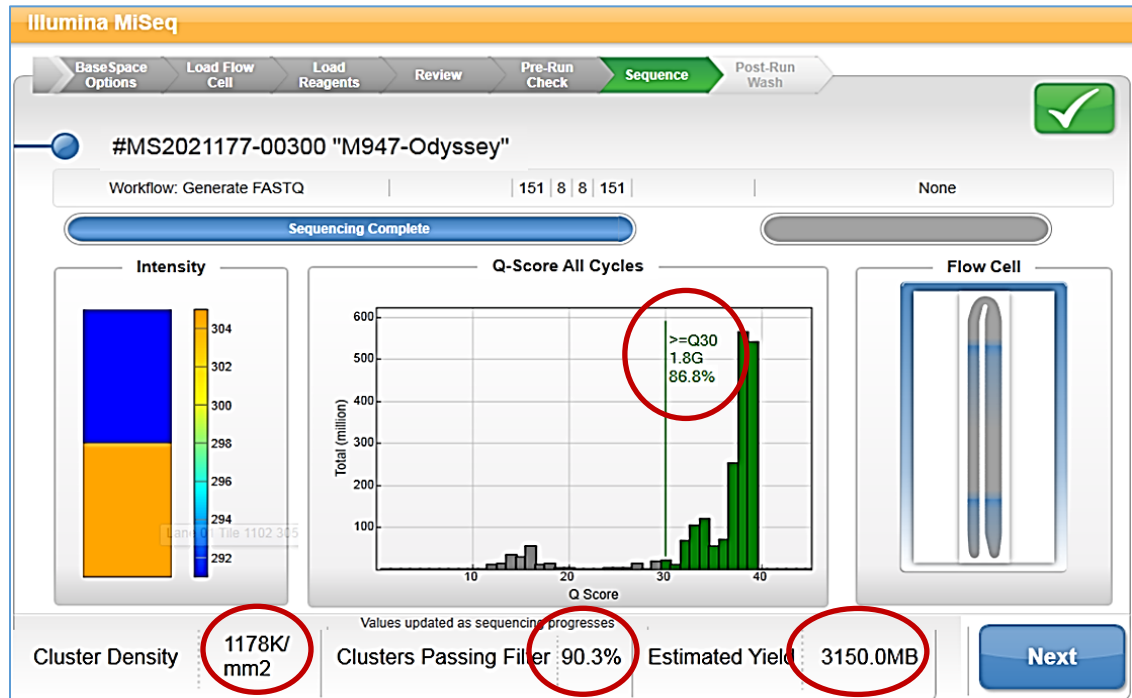

Figure 3. MiSeq Control Software Run Completion Screen. Primary metrics are circled in red.
9.8.1. Upon run completion, confirm that the sequencing run meets basic quality metrics, which will be shown on MCS when the run is complete (Fig. 3)